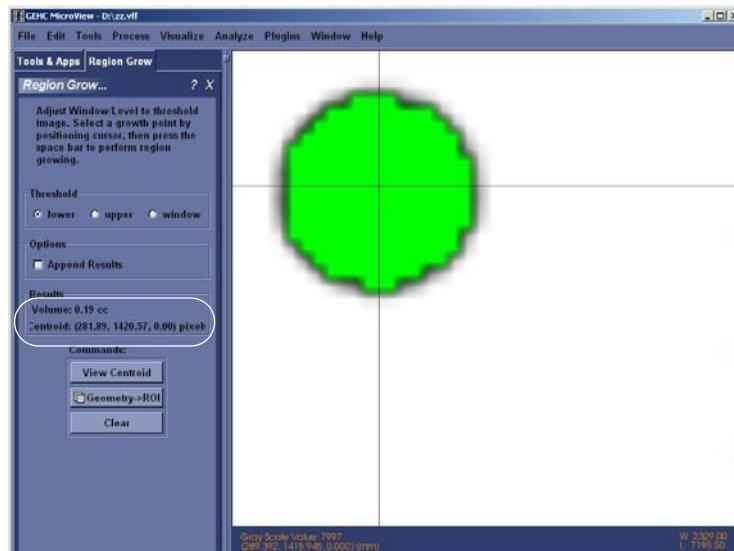

Figure 7-95
- In MicroView, click on *Tools/ Region Grow* (Figure 7-95)